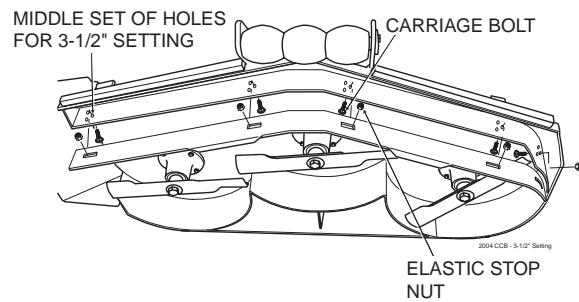

Figure 10. 3-1/2" Custom-Cut Baffle Position
- B. 3-1/2" Position (factory setting) - baffle is installed using the middle set of holes on the front baffle welded inside the cutter deck. (See Figure 10). For general purpose cutting, place the Custom Cut Baffle in the 3-1/2" position. This gives the best mix of cutting performance in all types of grass.